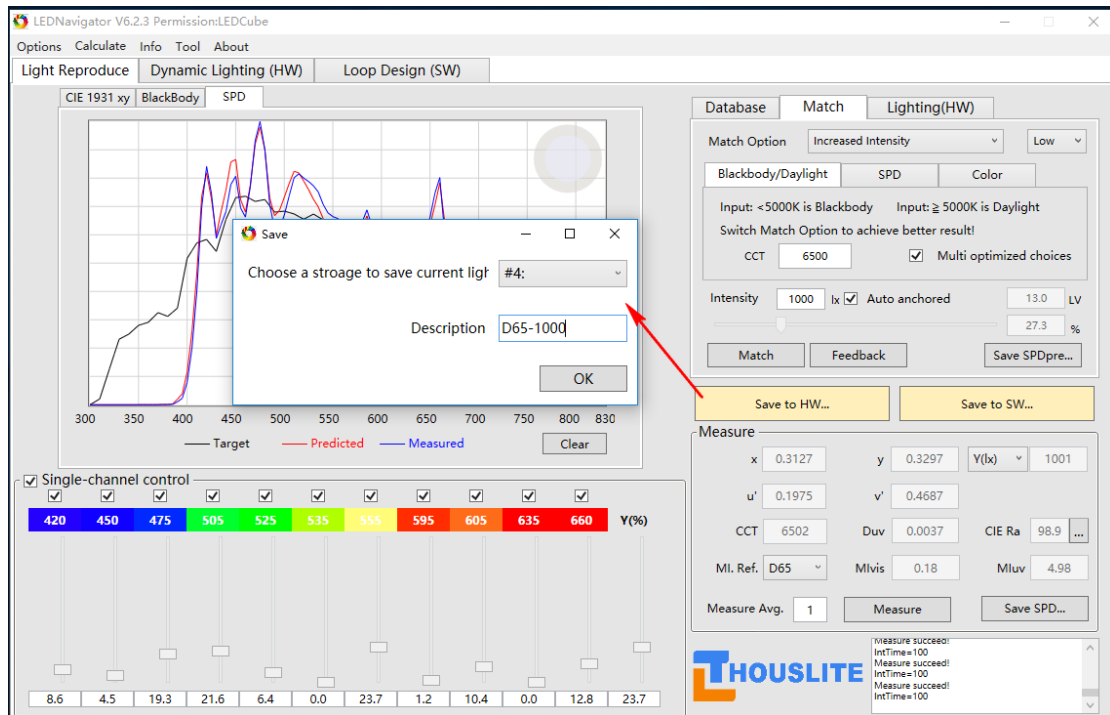

Fig. 6.5 Save the light source
- 9) Press *Save to HW...* or *Save to SW...* to save the light source to the software or LEDCube hardware, as shown in Fig. 6.5.